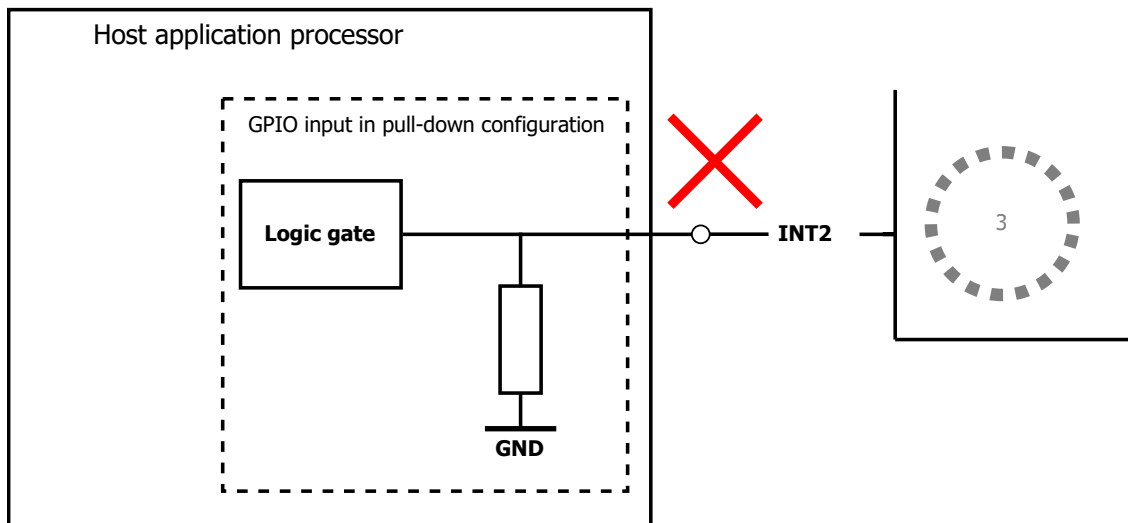

Figure 51: Connection that is not allowed in I2C and I3C before the pin 3 is configured to the output characteristics
- When the output characteristics of pin 3 is disabled (or not yet enabled), please do not connect pin 3 to a GPIO pin configured in the pull-down state, as shown in figure 51. Please consider this behavior especially during the startup of the device, since pin 3 is used in SPI Mode as CSB and therefore a connection to ground will trigger the SPI mode.